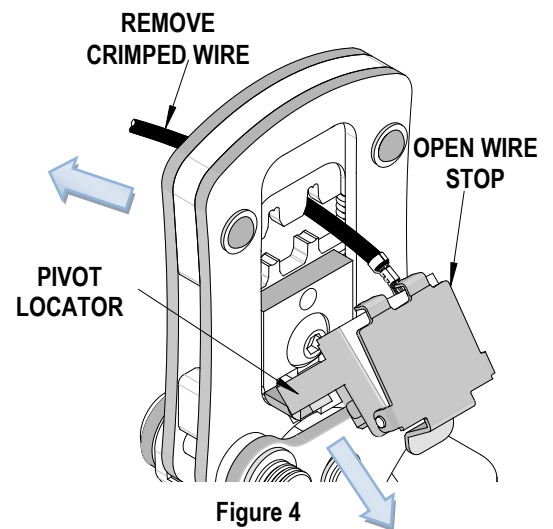

Figure 4
8. Before removing the crimped wire, pivot the terminal locator out. See Figure 4.